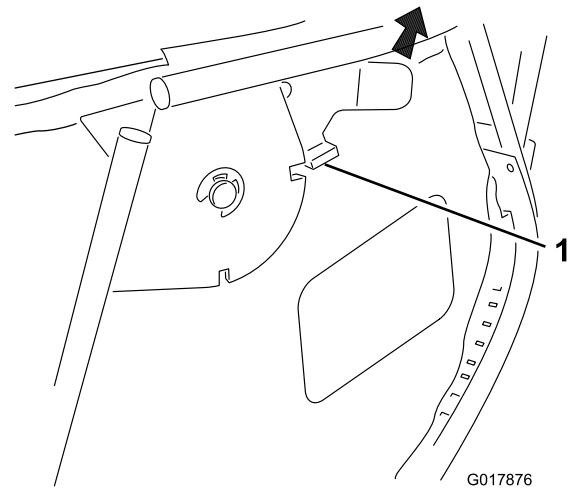

Figure 14
1. Disengage the locking latch (Figure 14).